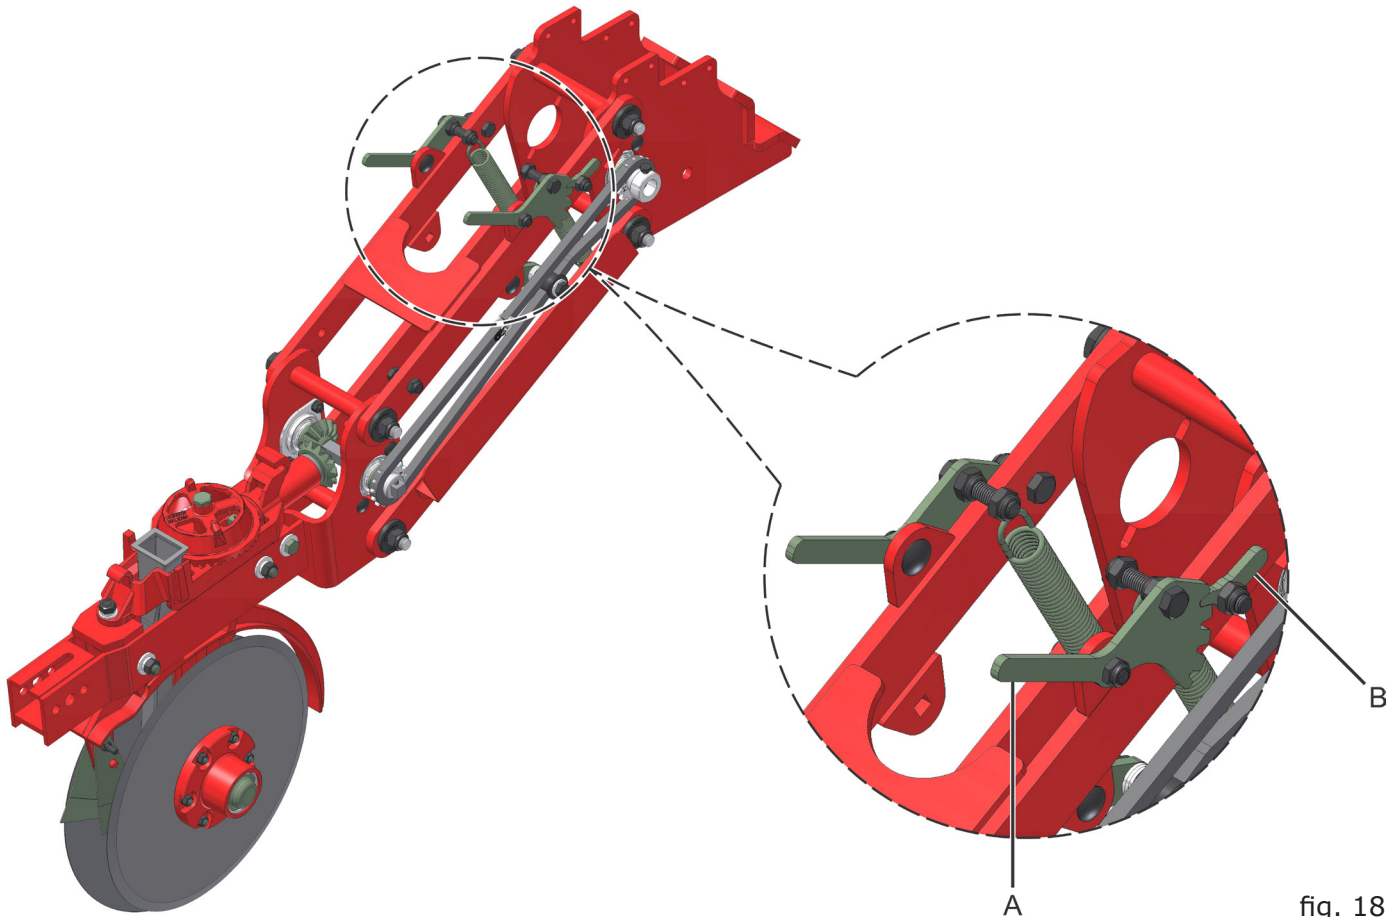

fig. 18
To adjust the spring pressure, in order to obtain greater amplitude (height oscillation) of the double seed discs, suspend the seeder to facilitate the operation. Then, move down lever (A) (Fig. 18) and position the lock (B) according to the desired amplitude and pressure. For both sides of the line to operate at equal pressure, the pressure setting must be the same on both sides.